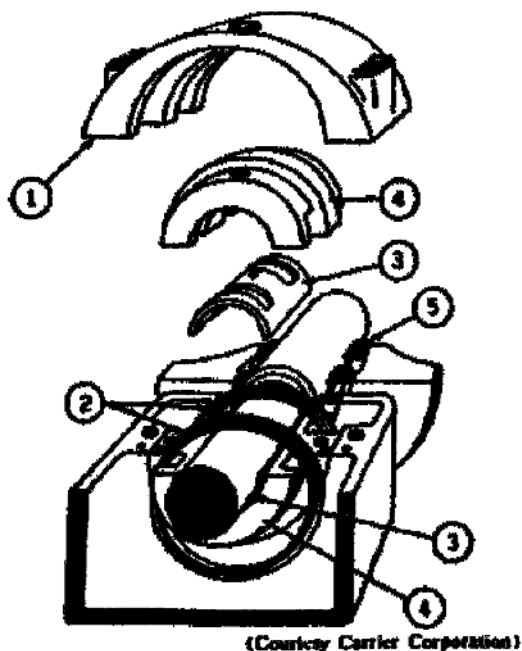
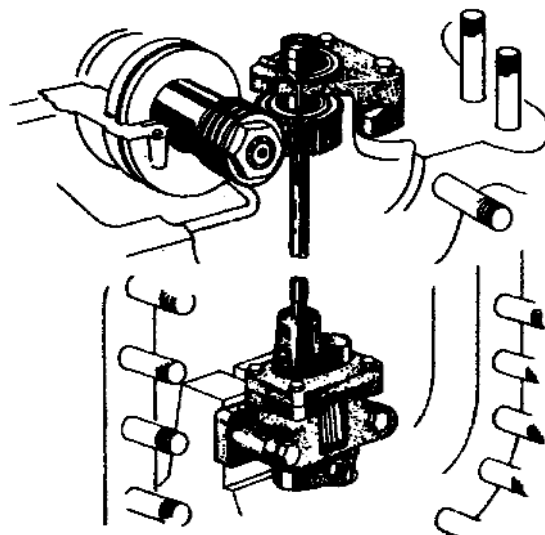

Figure 43. Bearing assembly.
Figure 44. Compressor oil pump.
3. In figure 43 a thermometer is inserted in top of each bearing cover (1) for indicating temperature. Each bearing also has two large oil rings (2) to insure lubrication. The upper and lower bearing liners (3) are held in place by the upper and lower bearing retainers (4).
4. Brass labyrinths (5) between stages and at the ends of the casing restrict the flow of gas between stages and between the compressor casing and bearing chambers.
6. **Compressor Lubricating System.** The entire oiling system is housed within the compressor casing and the oil is circulated through cored opening, drilled pages, and fixed copper fines. This eliminates all of the usual external lines and their danger of possible rupture, damage, or leakage. All of the oil for the lubricating system is circulated by a helical gear pump, shown in figure 44, which is submerged in the oil reservoir. The simple, positive drive insures ample oil for pressure lubricating and cooling all journal bearings, thrust bearings, and seal surfaces. The reservoir which houses the oil pump is an integral part of the compressor casing and is accessible through a cover plate on the end of the compressor. Circulating water cooling coils are fitted to the cover plate to maintain proper oil temperature.